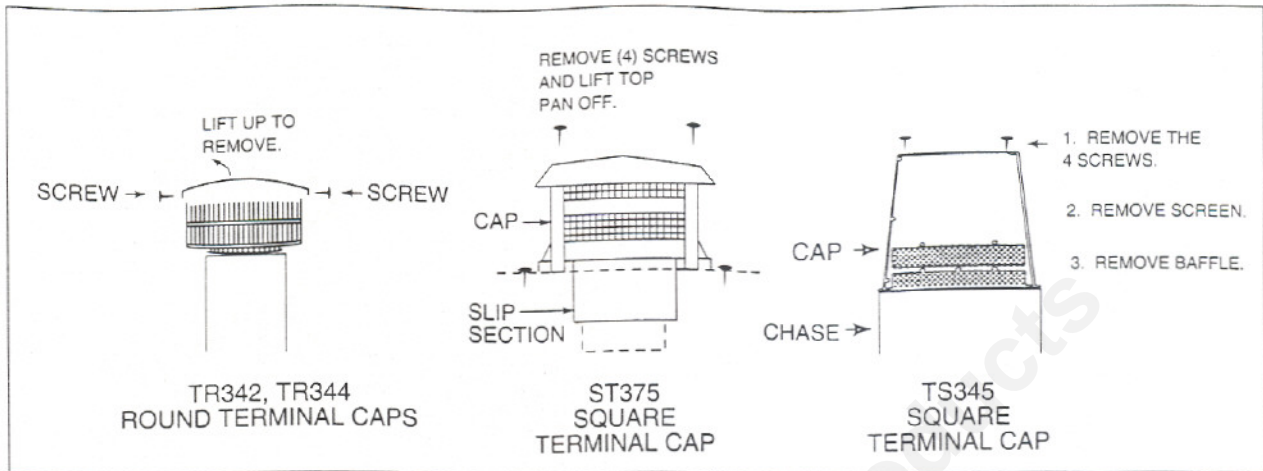

Figure 27 - Terminal Caps
3. Remove the Terminal Cap or Housing Top. See Figure 27.